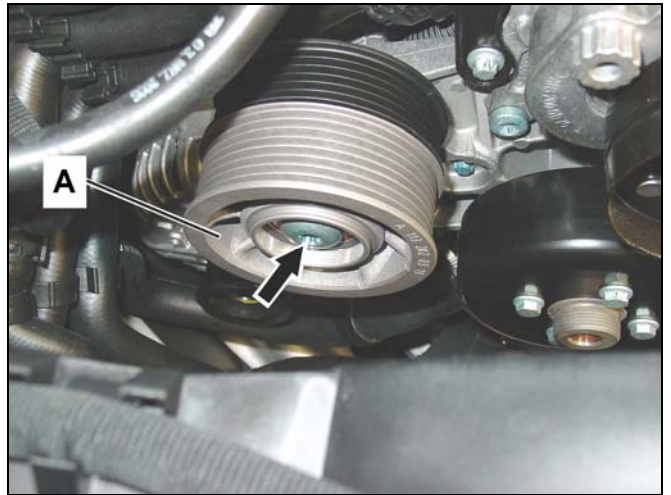

Figure 9
- ◆ Remove idler pulley bolt (arrow, Figure 9) and idler pulley (A).